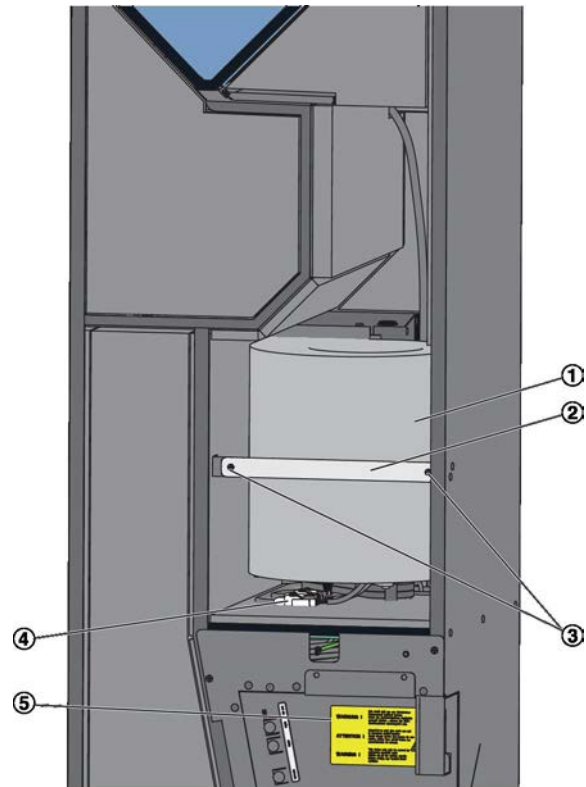

Fig. 28: Replacing the extract air fan
The extract air fan is installed above the electrical connections (Fig. 28/5).
3. ▶ Loosen the two plug connections (Fig. 28/4).
4. ▶ Demount the retaining bracket for the fan (Fig. 28/2) by loosening the two Phillips screws (Fig. 28/3).
5. ▶ Remove the fan (Fig. 28/1).